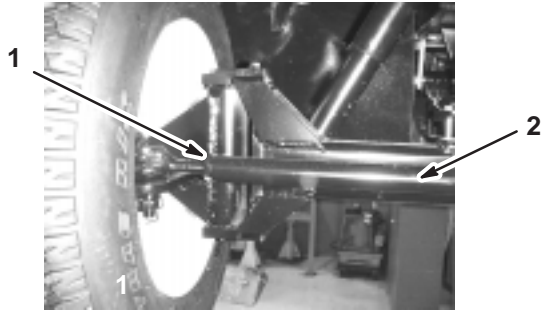

Figure 47
3. If the measurement does not fall within the specified range, loosen the jam nuts at both ends of the tie rod (Fig. 47).